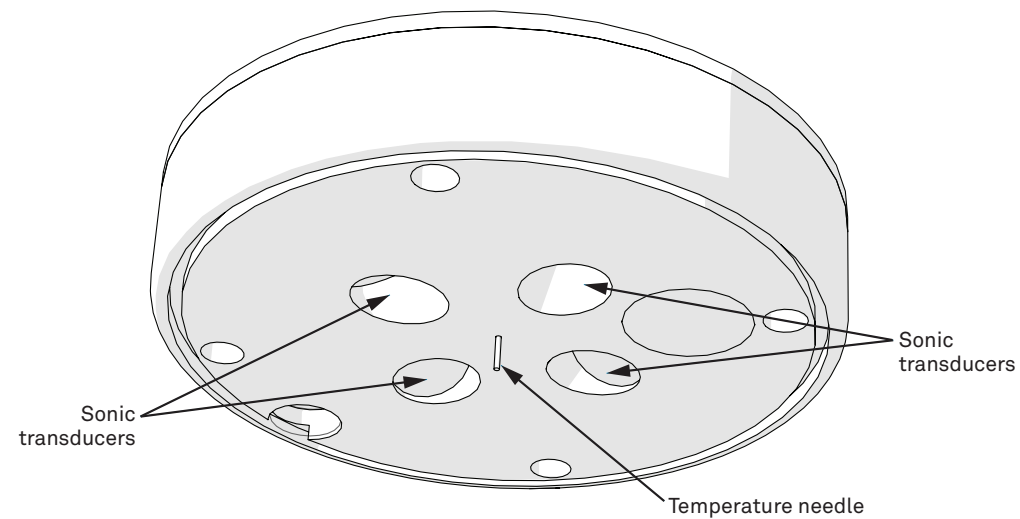

Figure 10 Temperature needle and sonic transducers
DO NOT touch the temperature sensor needle (Figure 10).
Avoid more than light pressure on the sonic transducers (Figure 10).
NOTE: Do not allow water to enter the ultrasonic sensors (Figure 10). Water may corrode the metal parts inside the sensors and ruin them. Do not touch the temperature sensor when cleaning because it is very delicate and can be damaged if pushed into the ATMOS 41 body.
- 3. Make sure nothing is obscuring the temperature sensor or the sonic transducers shown in Figure 10 (cobwebs, leaves, wasp nests, etc.).